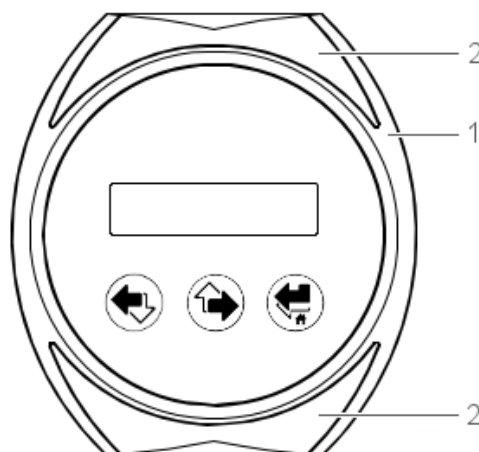

Figure 5-2 - Front Panel
1. If fitted, remove the front panel; refer to Figure 5-2 below:
- a. If fitted, carefully remove the two screw covers (2) from the front panel (1).
- b. Remove the four Phillips/slot-head screws securing the front panel (1) to the housing.
- c. Carefully ease the front panel (1) from the housing.